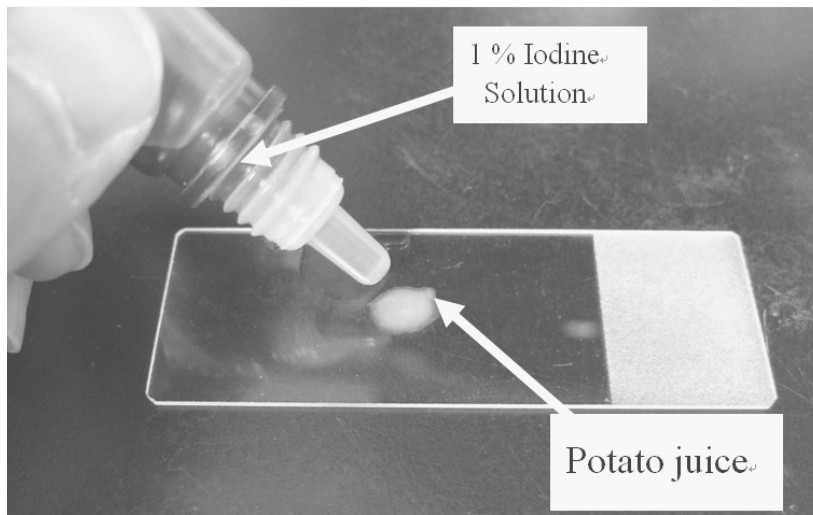

Figure II-1
2. Add one drop of 1% iodine solution on the potato juice. Mix them well to stain starch granules as shown in Figure II-1.